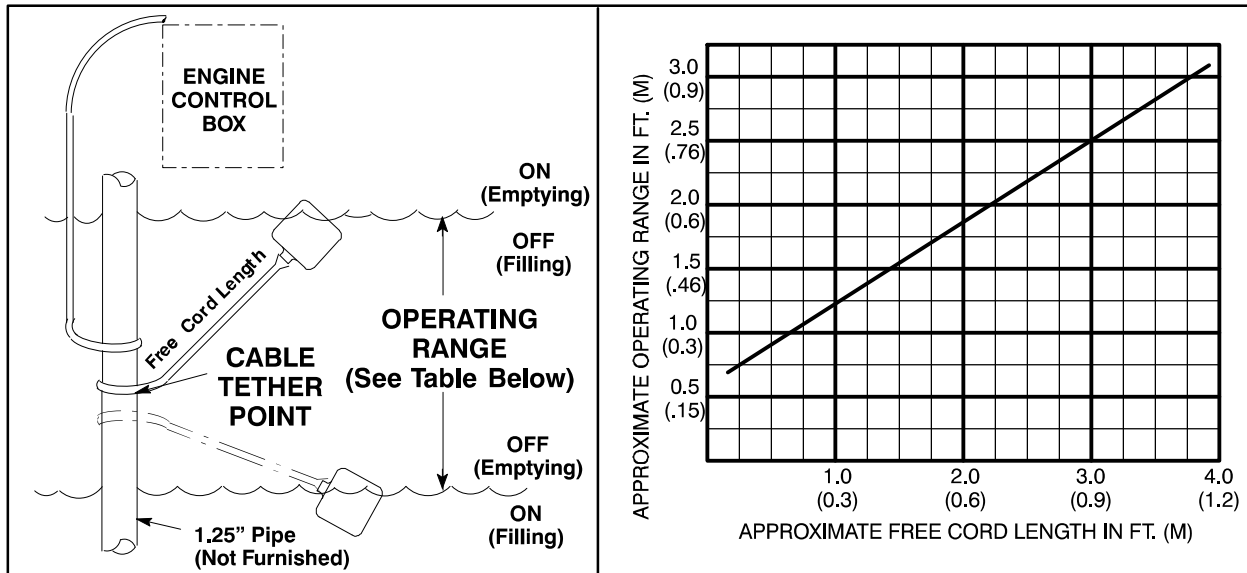

Figure 3. Float Switch Data
d. Refer to Figure 3 for additional float switch data.